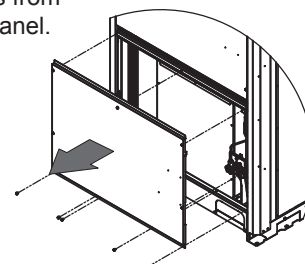

Fig. 2-4-22b
- The connecting valve is contained inside the unit. Therefore, remove the front panel. (Fig. 2-4-22b)